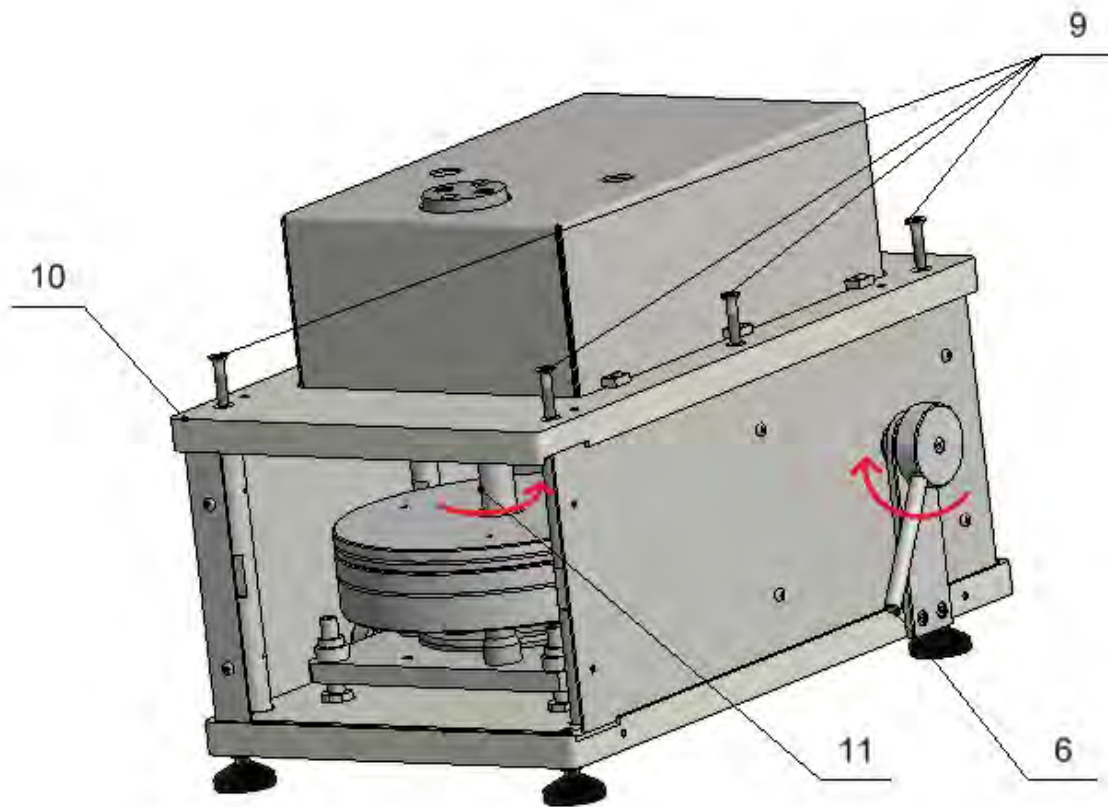
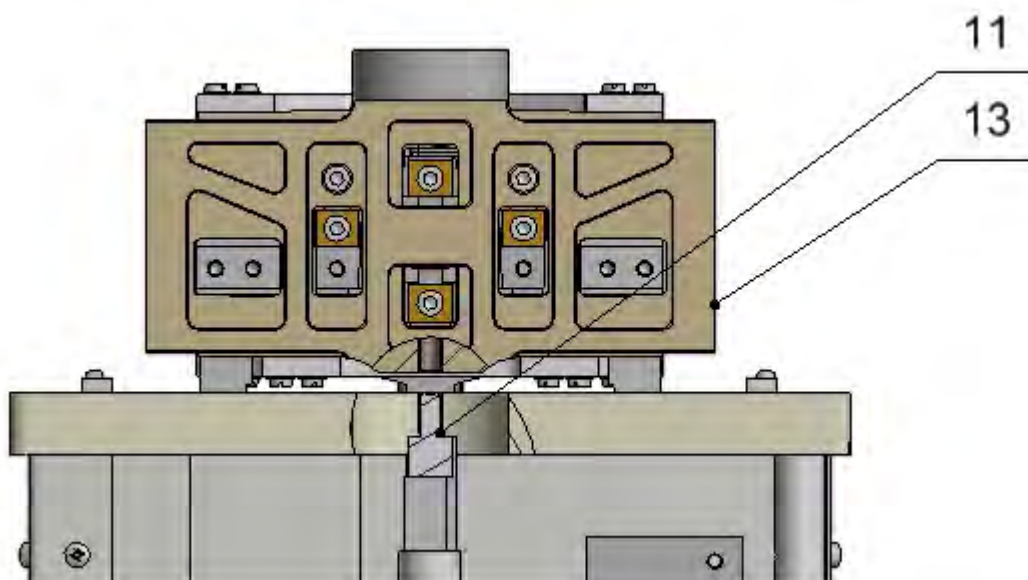

Fig.5
Fig.6
9. Using six M6 screws (9) fix board (10)
10. Fix bottom pan connector (11): gradually rotate the lever (6) from maximum load extent of a weighing pan to its minimum load extent, thus screwing bottom pan connector (11) to a vertical rocker (13). (Fig. 5 and Fig. 6)